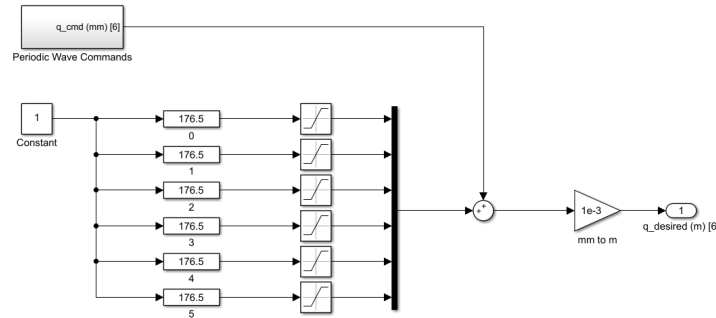
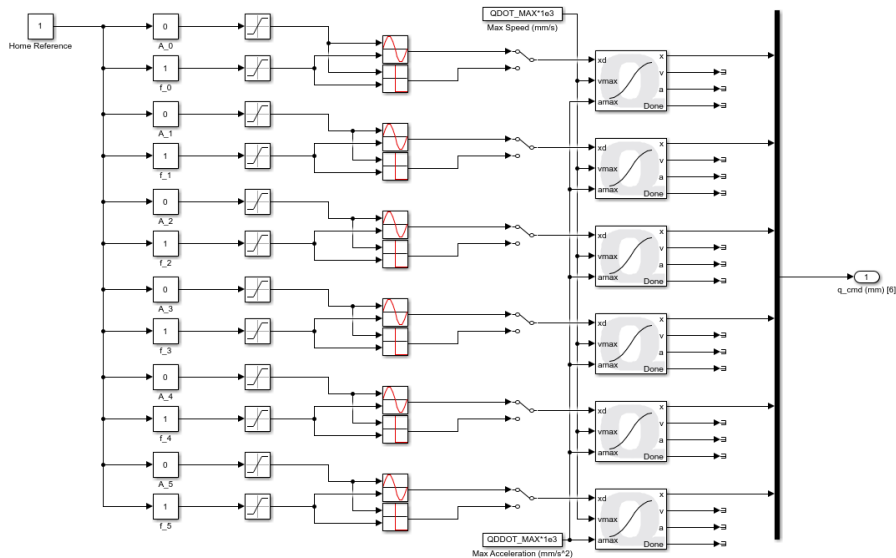

Figure 2.5: Joint-level controller HOME reference commands
Figure 2.6: Sine or square wave position commands
The joint-level commands can be found inside the Desired Joint Reference subsystem shown in Figure 2.5. The home reference command are set in the Slider Gain blocks shown in Figure 2.5 and set to 176.5 mm.
The Periodic Wave Commands subsystem, shown in Figure 2.6, allow the user to apply a square or sine wave joint command by changing the Manual Switch. The amplitude and frequency of the sine or square wave can be changed using the Slider Gain blocks that are, by default, all initially set to zero. For example, set the  $A_0$  block to 5 and the  $f_0$  block to 2 to apply a  $\pm 5$  mm sine wave at 2 Hz to joint 0.
7. Change the values of the Slider Gain blocks in the Figure 2.6 gradually to begin commanding a sine wave to the linear actuators.
9. Before stopping the controller, it is recommended to set position commands back to the home reference. That is, set the Slider Gain blocks in the Periodic Wave Commands subsystem in Figure 2.6 all to 0 and the Constant block in Figure 2.5 to 176.5 mm to bring the stage back to HOME position and ready for the next experimental run.